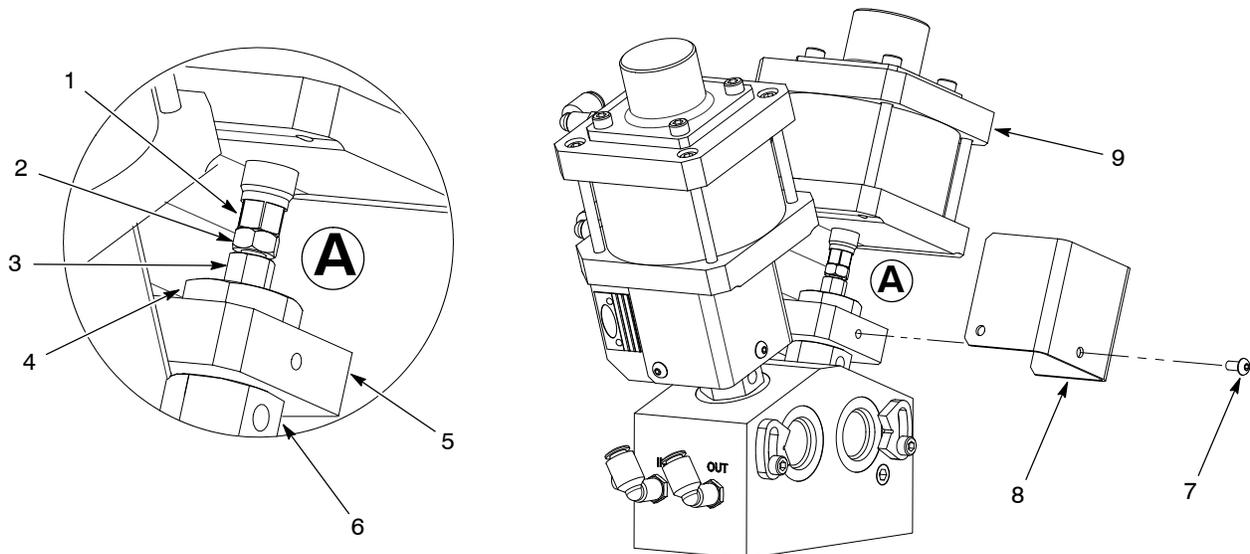
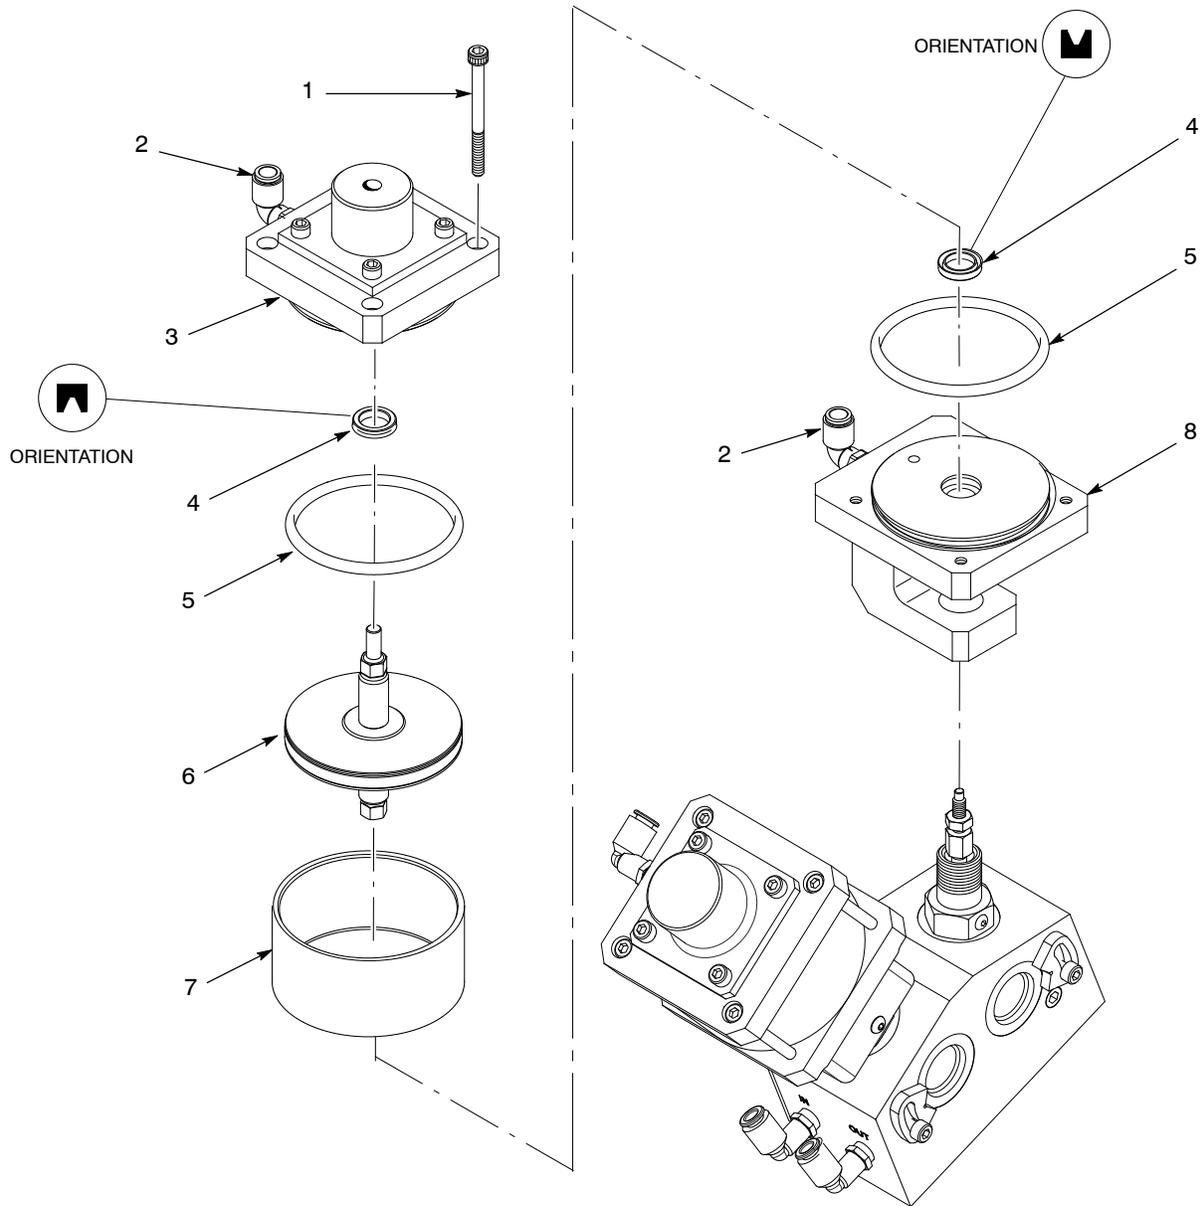

Figure 4 Removing the Air Cylinder Assembly
Figure 5 Replacing the Air Piston assembly
1. See Figure 4. Remove the screws (7) securing the guard (8) to the yoke (5).
2. Hold the air shaft hex (1) with a 10-mm wrench and loosen the jam nut (2) with a second 10-mm wrench.
3. Using a 1-in. open-end wrench, unscrew the retaining nut (4) securing the yoke (5) onto the bonnet hex (6).
4. Hold the air shaft hex (1) with a 10-mm wrench and apply a second 10-mm wrench to the coupler nut (3). Unscrew the coupler nut.
5. Remove the air cylinder assembly (9) from the dispense gun.
6. See Figure 5. Using a 4-mm hex key, remove the four socket head screws (1) from the upper cylinder head (3).
7. Separate the upper cylinder head from the yoke/lower cylinder head (8).
8. Remove the cylinder sleeve (7) and the piston/shaft assembly (6). Discard the old piston assembly.
9. Remove the lip-seals (4) from the grooves inside the upper and lower cylinder heads.
10. Remove the cylinder head O-rings (5) and discard.
1. See Figure 5. Lubricate new lip-seals (4) with Magnalube-G and install them as shown.
2. Lubricate and install two new cylinder head O-rings (5).
3. Lubricate the inside diameter of the cylinder sleeve (7) and the outer blue seal of the piston/shaft assembly (6).
5. Install the piston shaft into the yoke/lower cylinder head (8). Snap the cylinder sleeve onto the yoke.
6. Snap the upper cylinder head (3), O-ring side down, onto the cylinder sleeve (7).
7. Line up the upper cylinder head and lower cylinder heads squarely, so that the air fittings (2) are aligned.
8. Lubricate the threads of the four socket head screws (1) and install them to secure the upper cylinder head onto the lower cylinder head. Tighten the screws 5.2 N•m (46 in.-lb).
9. See Figure 4. Position the retaining nut (4) onto the yoke (5). Lower the air cylinder assembly (9) onto the bonnet (6).
10. Hold the coupler nut (3) in place and finger-tighten the retaining nut (4) onto the bonnet (6).
11. Using the coupler nut (3), screw the bonnet stem up into the air cylinder shaft until it bottoms out. Do not over tighten using the coupler nut.
12. Using a 10-mm wrench to hold the air shaft hex (1), tighten the jam nut (2) into the air shaft using a second 10-mm wrench. Tighten the jam nut to $9 \text{ N}\cdot\text{m}$ (80 in.-lb).
13. Tighten the retaining nut (4) to $40.7 \text{ N}\cdot\text{m}$ (30 ft-lb).
14. Coat the screws (7) with Loctite 242. Install the guard (8) onto the yoke (5) and tighten the screws securely.